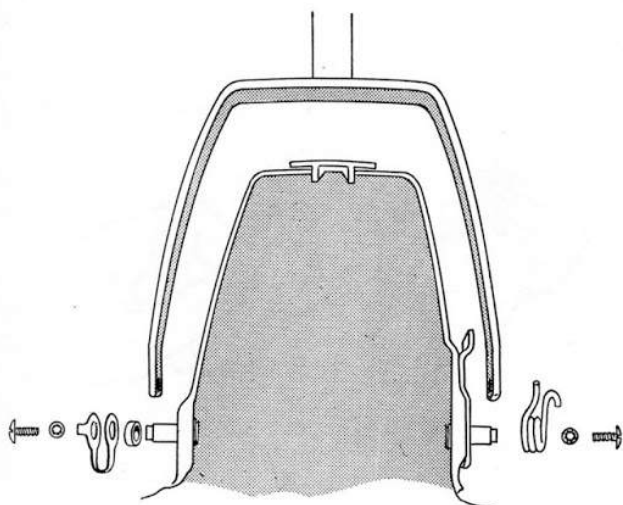

Fig. 4
- a. First place spacing washer over left bail stud, next to this place motor lead clip which has a tongue to fit into a notch in the bail. See Fig. 4.